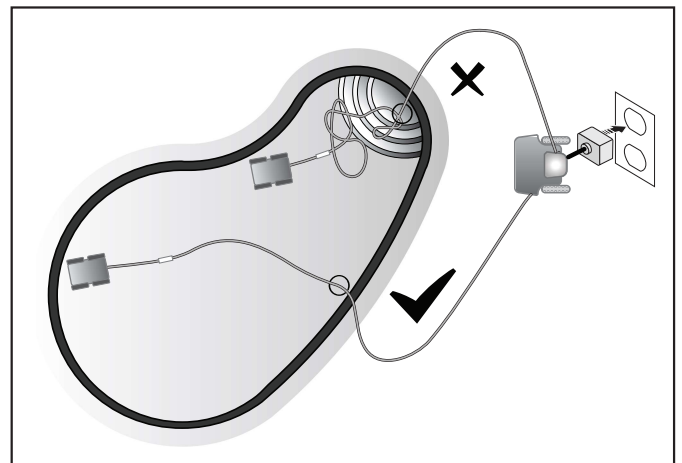

**Figure 28. Wash Filter Canister**
9. Empty all debris from the filter canister, then rinse the canister, the filter support, and the cleaner under water or using a hose, as shown in Figure 28.